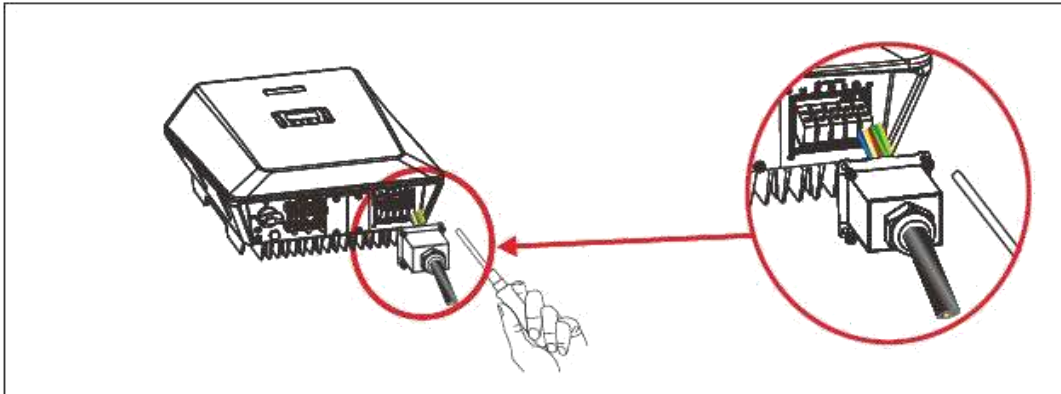

Figure 5.8 Tightening AC wiring cover
Step 5 Aligning with the hole position on the AC terminal cover, use a torque wrench to tighten the locking cap to a torque of 1.2 N m, as shown in Figure 5.8.
Step 6 Use a torque wrench to tighten the locking cap on the AC cable to a torque of 5 N m, as shown in Figure 5.8.